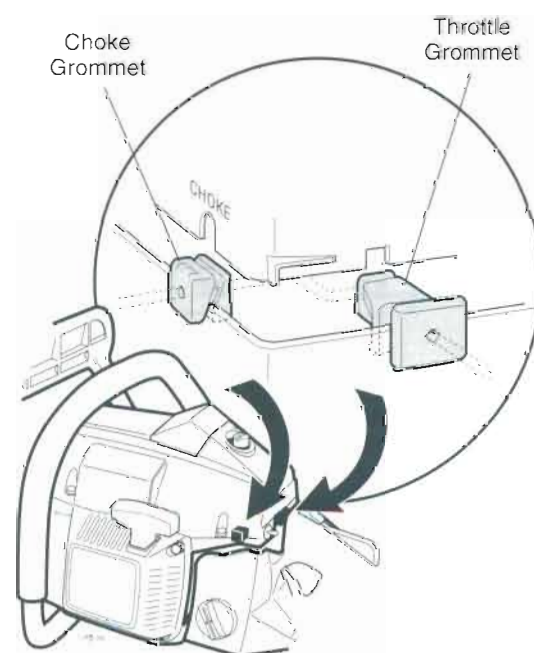

Figure 3.40 Correct Grommet Orientation
- Install the cylinder cover in the reverse of disassembly, and pay special attention to the correct orientation of the rubber sealing grommets for the choke rod and throttle control (Figure 3.40).